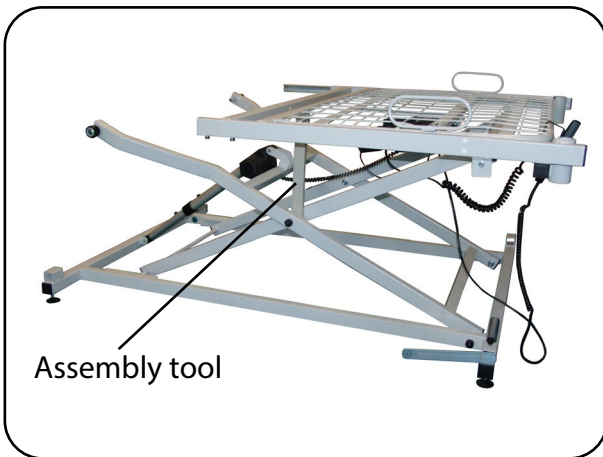
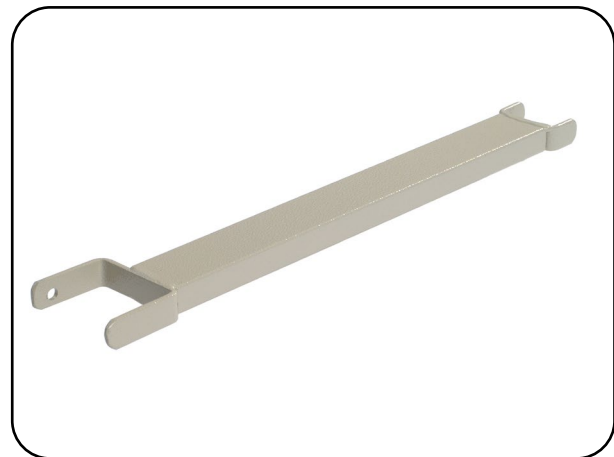

Fig. 6.1.03 – Head support attached
Fig. 6.1.04 – Assembly tool
6. Place the head support with the support mountings on the side round tubes of the scissor lift (Fig. 6.1.03). To facilitate assembly, place the assembly tool (with the large fork opening facing down) centrally between the cross tubes of the scissor lift and the head support (Fig. 6.1.03 and Fig. 6.1.04). The head support is now horizontal. Alternatively, a second person can hold the head support in a horizontal position.